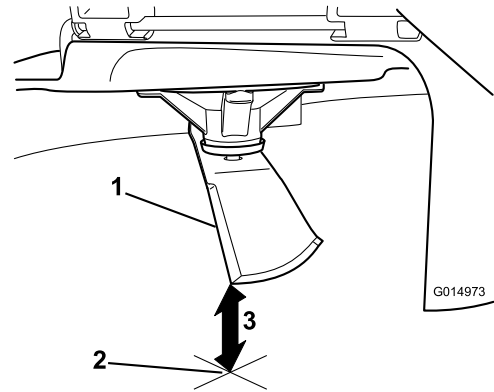

Figure 49
3. Measure from the tip of the blade to the flat surface (Figure 49).